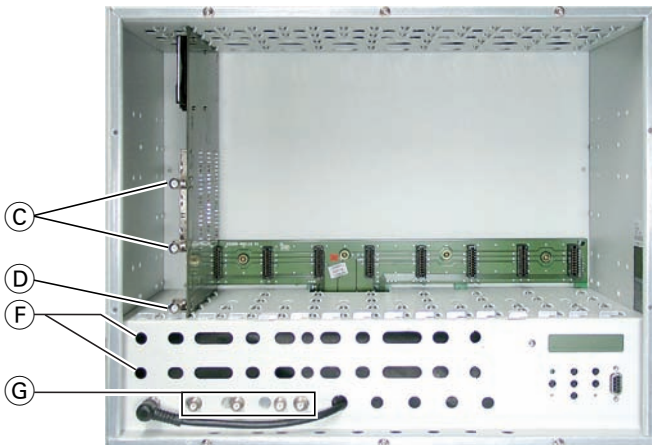

Fig. 4
- Connect SAT-IF inputs (C) on the COFDM module (fig. 4) to the preinstalled F terminals in the rear wall of the head-end station via the cable inlets (F) using HF cables made on-site (length approx. 80 cm) or if applicable connect each to one of the outputs of a retrofitted SAT-IF input distributor.
- After programming, connect the modulator output (D) to one of the input sockets (G) of the output collector.